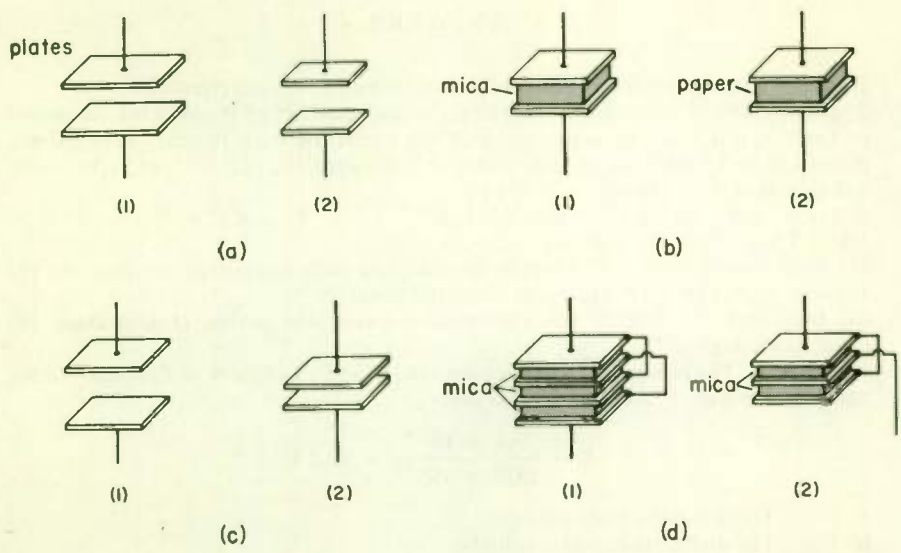

Fig. 3
5. Which capacitor of Fig. 3(a) has a higher capacitance? _____.
6. Which capacitor of Fig. 3(b) has a higher capacitance? _____.
7. Which capacitor of Fig. 3(c) has a higher capacitance? _____.
8. Which capacitor of Fig. 3(d) has a higher capacitance? _____.